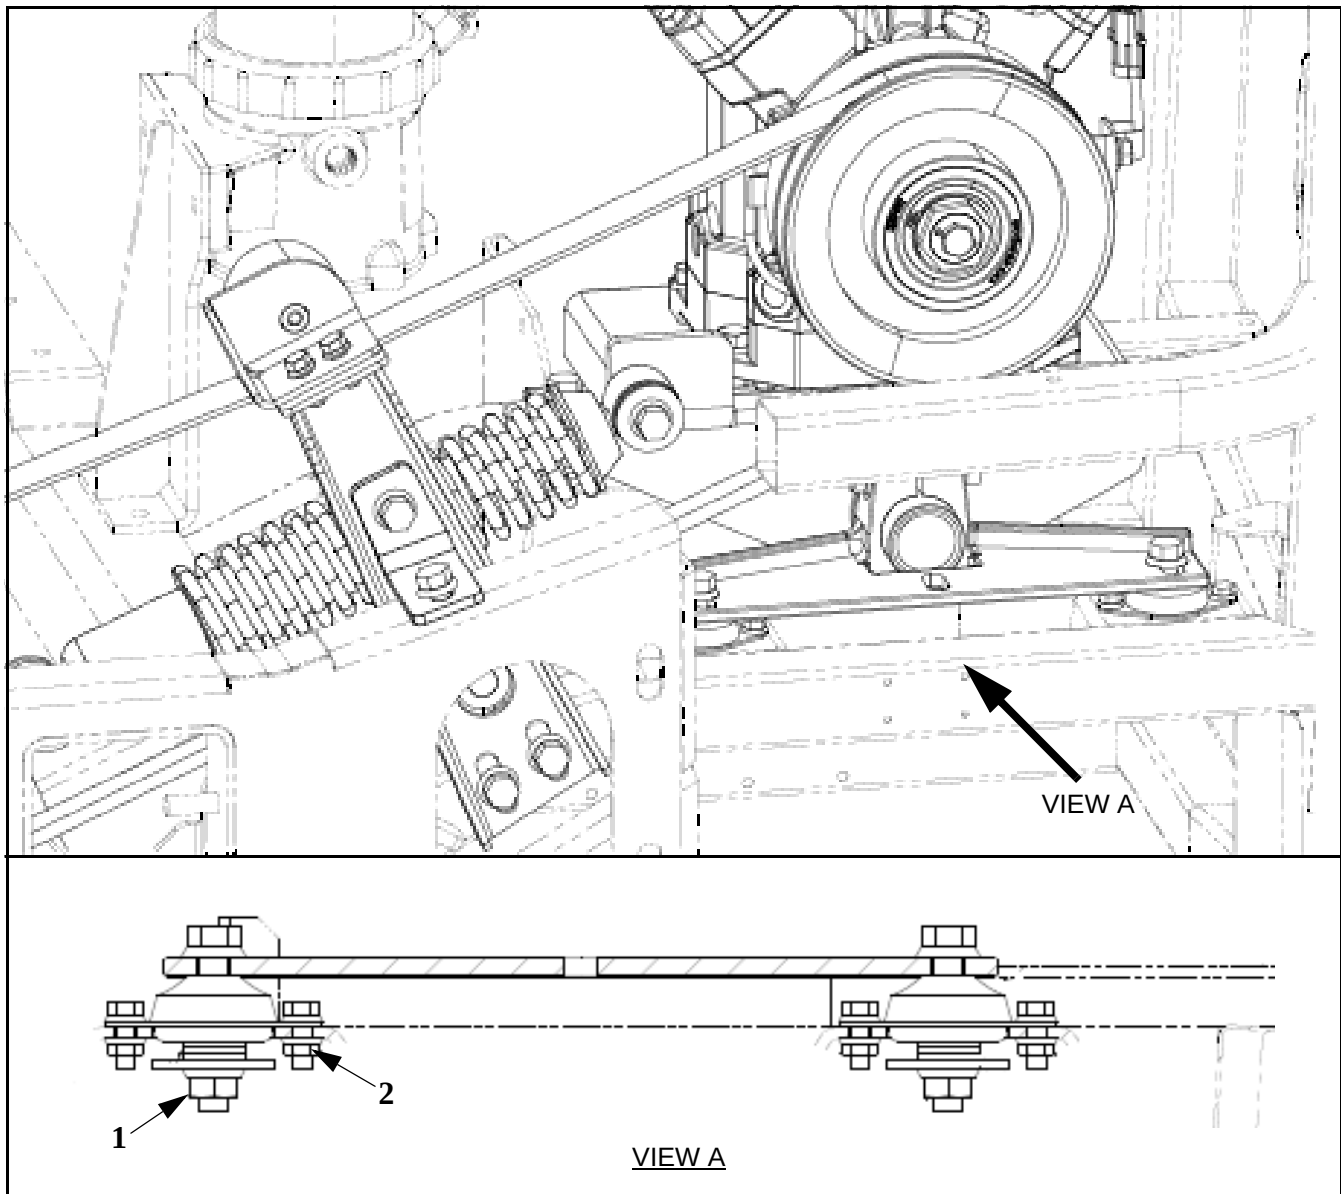

Figure 20. A/C compressor pivot plate installation.
52. Re-orient the A/C compressor pivot plate into position. Using the existing mounting hardware, re-install the A/C compressor pivot plate as shown in Figure 20.
Item	Figure 20 Description